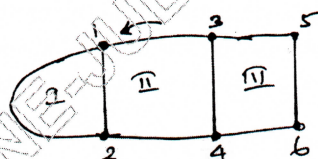

Fig Q8(b)
b. Calculate the shear stress distribution in the walls of the three cell section as shown in Fig Q8(b) when it is subjected to counterclockwise torque of 11.3 kN.m. The data are in the table 8(b) (08 Marks)